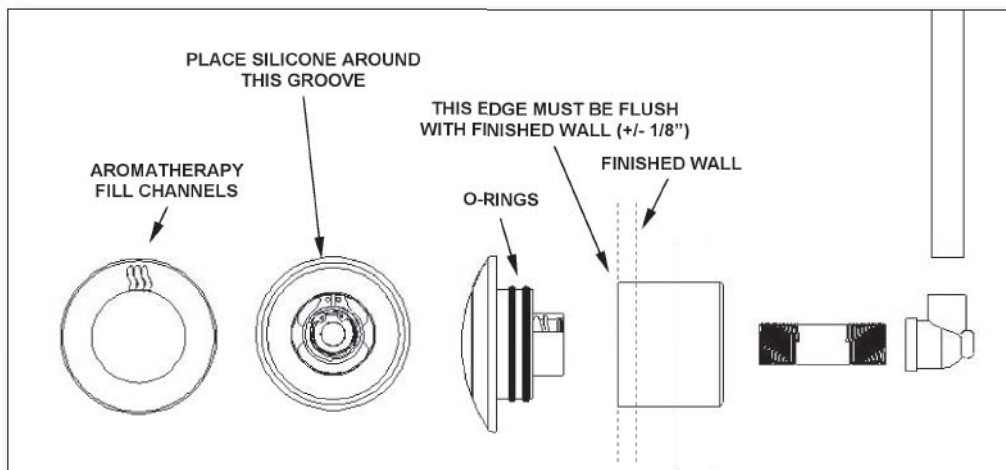

Figure 5
3. When finalizing installation, install the Steamhead into the housing, making sure that the aromatherapy fill channels are facing upwards; see **Figure 5**. To ensure that no moisture gets behind the Steamhead and into the wall, place a generous bead of waterproof silicone around the Steamhead, using the machined groove (located on the back of the Steamhead) as a guide. Be sure there isn't any debris within the housing, and that the two O-rings are in place on the Steamhead. Slide the Steamhead into the housing until the Steamhead is tight against the finished wall. You may need to wipe away any excess silicone. Use Figure 5 as a reference to these steps.